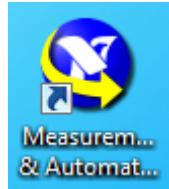

Fig 16
1. Open NI MAX program from desktop. Refer to Fig 16.